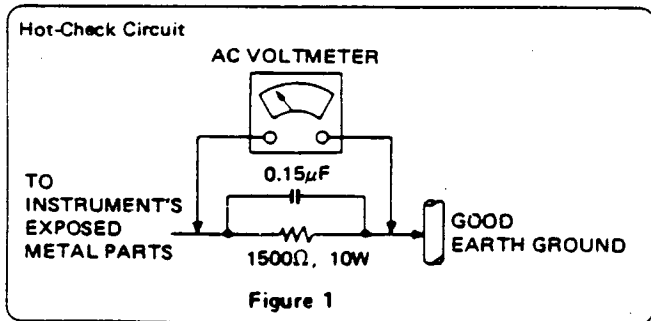

Figure 1
LEAKAGE CURRENT COLD CHECK (See figure 1.)
LEAKAGE CURRENT HOT CHECK (See Figure 1.)
2. Connect a 1.5 kΩ, 10 watts resistor, in parallel with a 0.15 μF capacitor, between each exposed metallic part on the set and a good earth ground such as a water pipe, as shown in figure 1.